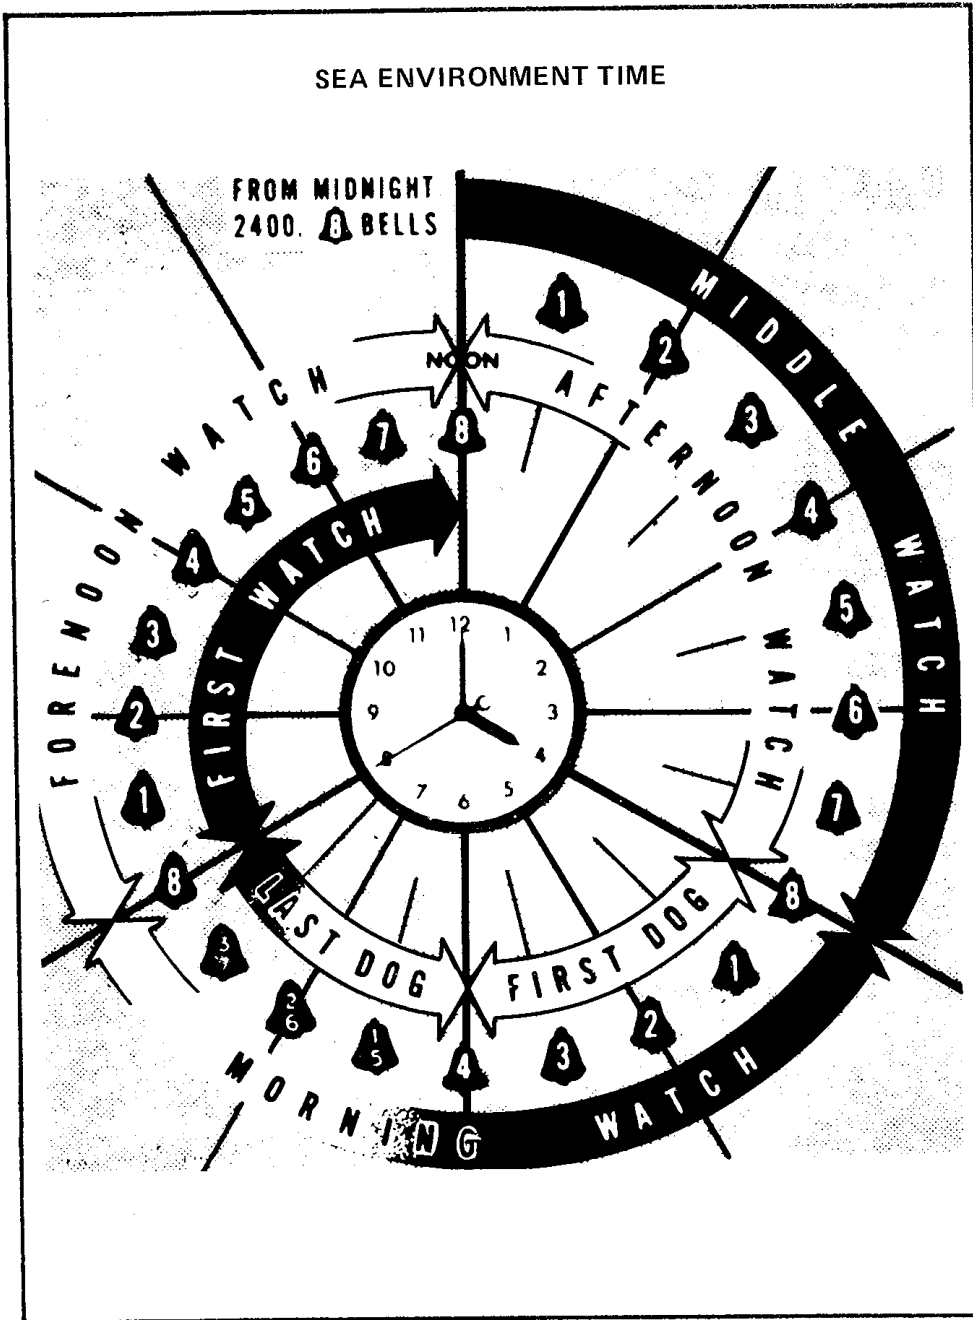

Figure 9-12 Sea Environment Time
45. **Timekeeping** — The 24-hour clock is used instead of the 12-hour clock. For example, 1 pm is 1300, 2 pm is 1400 and so on. See Figure 9-12. Note that to avoid confusion as to what day is involved, midnight is never called 2400 or 0000, but is always referred to as "2359".